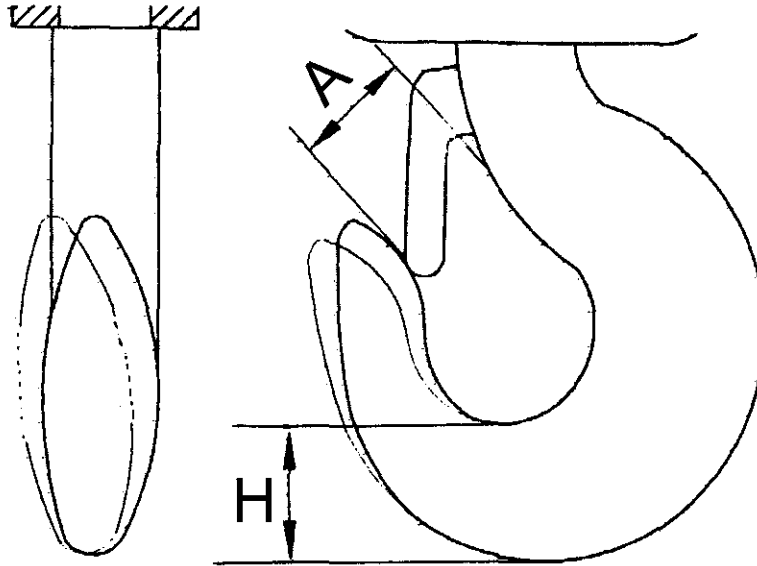

FIGURE6-1 EXAMPCE OF HOOK WEAR
- 3) A bend or wrist exceeding 10° degree from the plane of an unbent hook (Fig. 6-1)